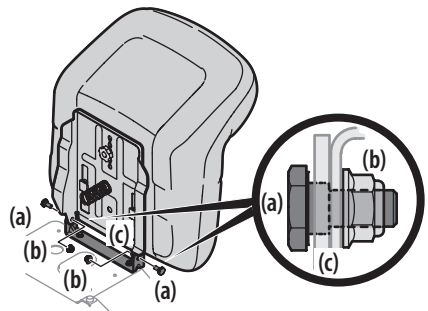

Figure 9
4. Using a 1/4" drive ratchet with a 3/8" socket, secure the seat bracket (a) with the self-tapping bolts (b) removed in Step 2. See Figure 9.
6. Install the two shoulder bolts (a) and lock nuts (b) removed from the seat mounting bracket (c) in Step 1. See Figure 9.
NOTE: Make sure that the bolt's shoulder is completely recessed into the seat bracket when securing the lock nut. See inset of Figure 9.